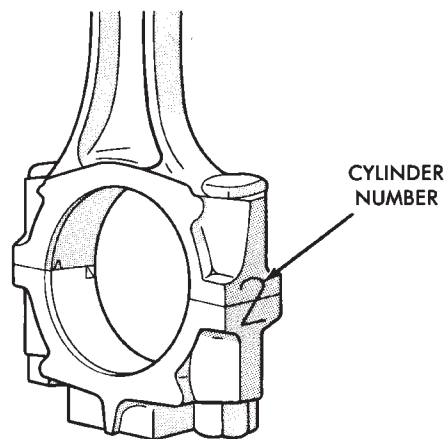

Fig. 79 Mark Matching Parts
- (2) Mark connecting rod and cap with cylinder number (Fig. 79).